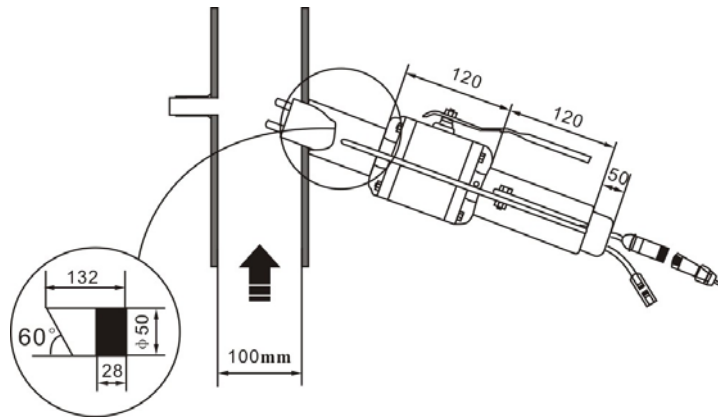

Fig. 3.1 Mounting stud installation for ball valve assembly
Refer to Fig. 3.1.
- Provide clearance for removal of the sensor as indicated in Fig. 3.1.